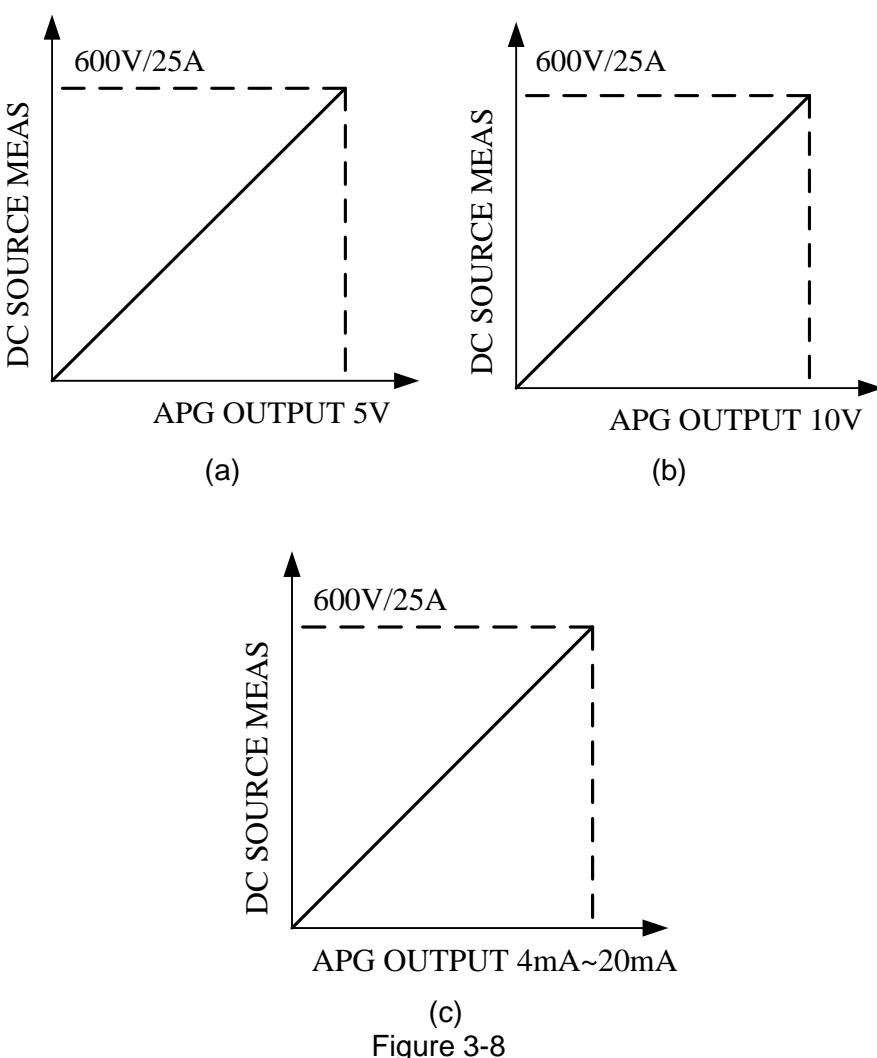

Figure 3-8
- Selecting Vref=5V means the DC Power Supply's measurement output 0 - 600V/0A ~ 25A will map to 0-5V as shown in Figure 3-8 (a).
- Selecting Vref=10V means the DC Power Supply's measurement output 0 - 600V/0A ~ 25A will map to 0-10V as shown in Figure 3-8 (b).
- Selecting Iref=4-20mA means the DC Power Supply's measurement output 0 - 600V/0A ~ 25A will map to 4mA-20mA as shown in Figure 3-8 (c).